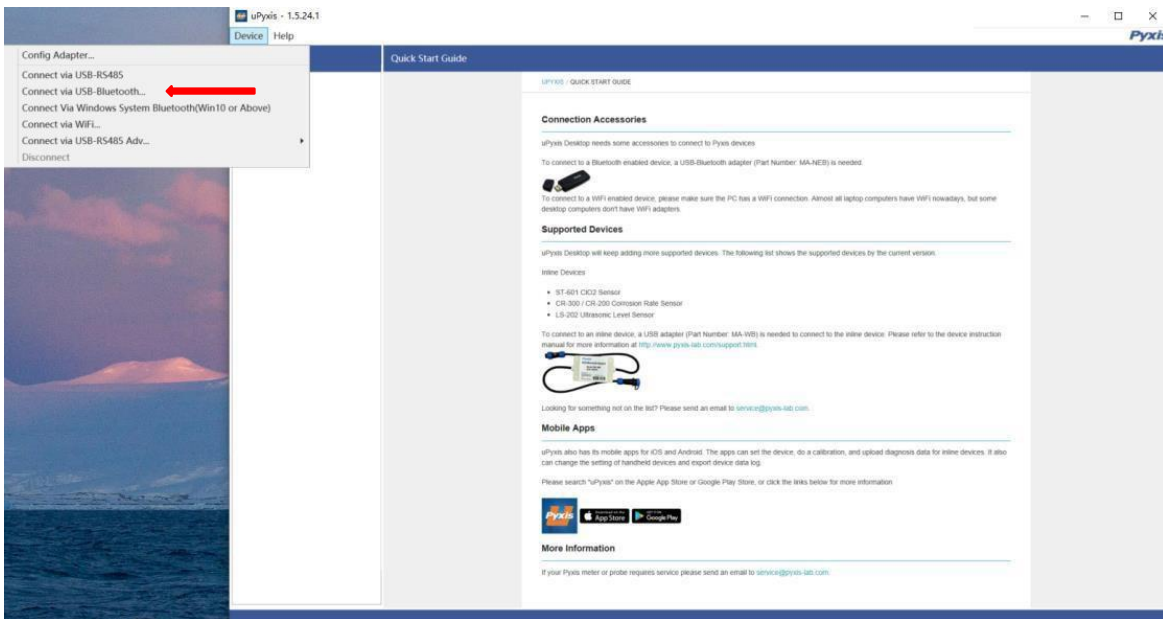

Figure 18 - Connection Options
3. Select **Connect via USB-Bluetooth** (Figure 18).